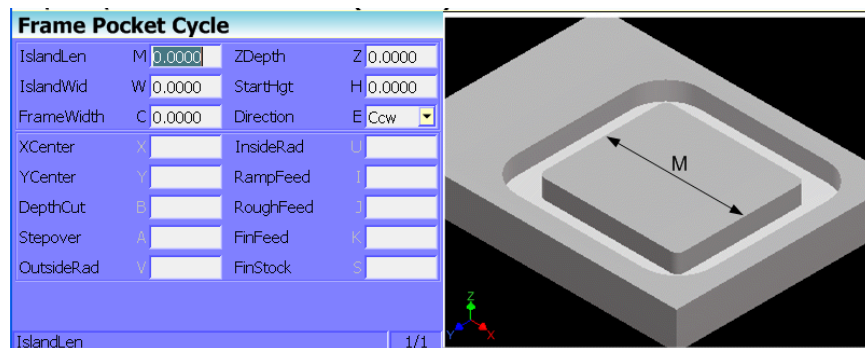

Figure 4-19, Frame Pocket Cycle Graphic Menu
2. Highlight **Frame** and press **ENTER** to display the Frame Pocket Cycle Graphic Menu. Refer to **Figure 4-19**.